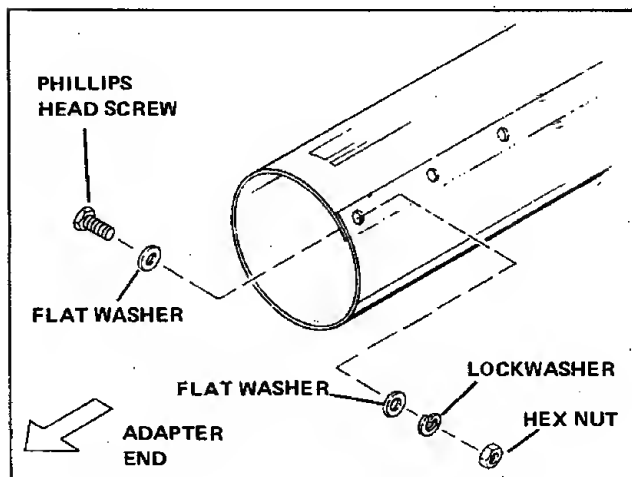
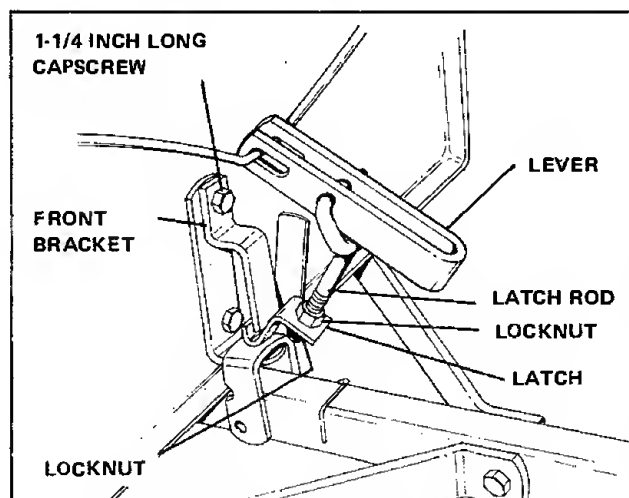

Figure 15. Assembling Inlet Tube
Figure 24. Assembling Front Latch
5. Assemble the inlet tube with the phillips head screws, flat washers, lockwashers and nuts provided. Place a flat washer on each screw, and insert the screws from the inside of the tube, placing a flat washer, lockwasher, and nut on each screw on the outside of the tube. (See figure 15.)
9. Attach bracket to front of cart with 1-1/4 inch long capcrew (figure 24.)
11. Insert rear latch rod through lever holes and secure it with a cotter pin (figure 15). Install locknut, latch, and locknut on latch rod. With lever in closed position, adjust latch until it is securely hooked under cart. Repeat procedure for front side with latch tight under bracket (figure 24).